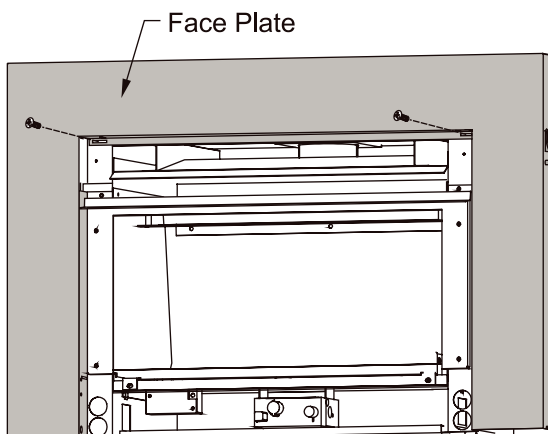

Figure 6b. Fixing the face plate in position.
- Attach the face plate by installing two screws into the top pilot holes as shown in **figure 6b**.